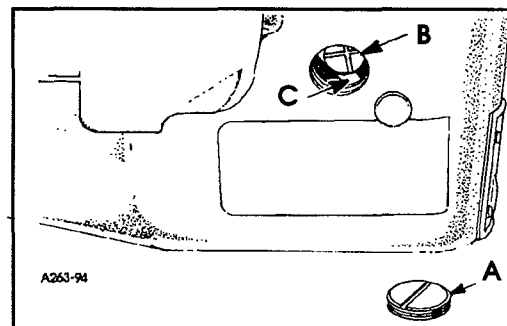

FIG. 12
When change in stitch length is required, remove large plug screw (A, Fig. 12). Loosen feed rocker driving link screw (B) in lever (C). Moving the feed rocker driving link up in the lever slot lengthens the stitch, moving it down, acts the reverse. Retighten link screw (B) securely and replace plug screw (A).
**NOTE:** If plug screw (A) is replaced with a new plug screw, it should be sealed with a lead seal.